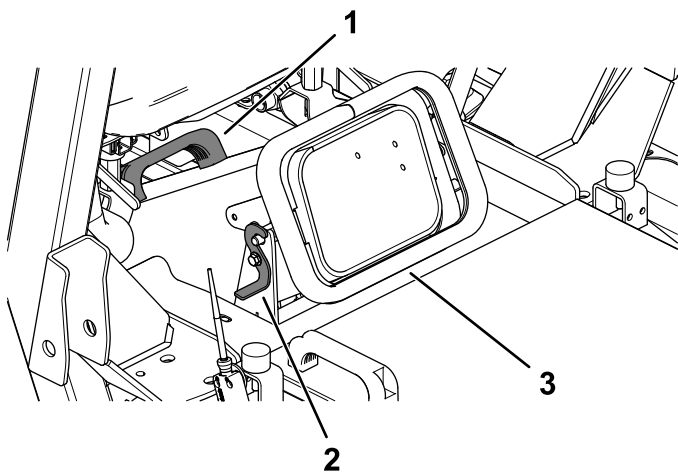

Figure 27
6. Unlatch the grass chute (Figure 27).
7. Using the handle on the chute, remove the chute and clear it and the mower deck opening (Figure 27).
8. Install the chute and secure it with the latches (Figure 27).